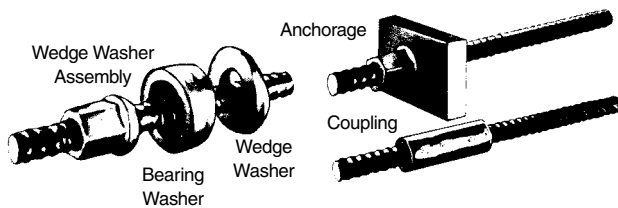

Figure 1.15: Bar Tendon with Plate Anchor
- 2) **Bar Systems** (Figure 1.15)